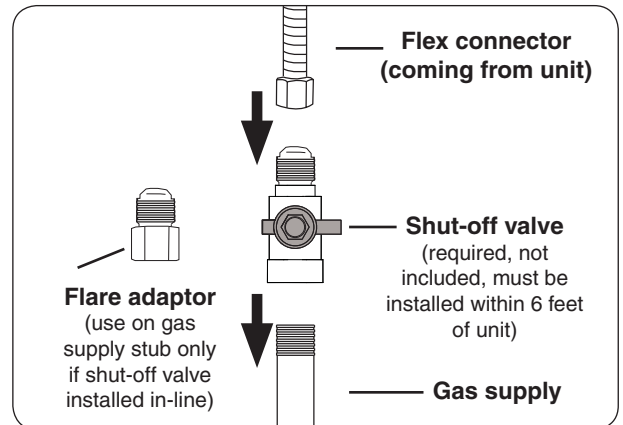

Fig. 18-3 Connecting to a gas line
- Connect the flex connector to the shut-off valve (see Fig. 18-3). Tighten securely.
- Install the supplied flare adapter to the gas supply using a pipe joint compound resistant to all gasses (see Fig. 18-3). Tighten securely.
- Connect the flex connector to the flare adapter (see Fig. 18-3). Tighten securely.